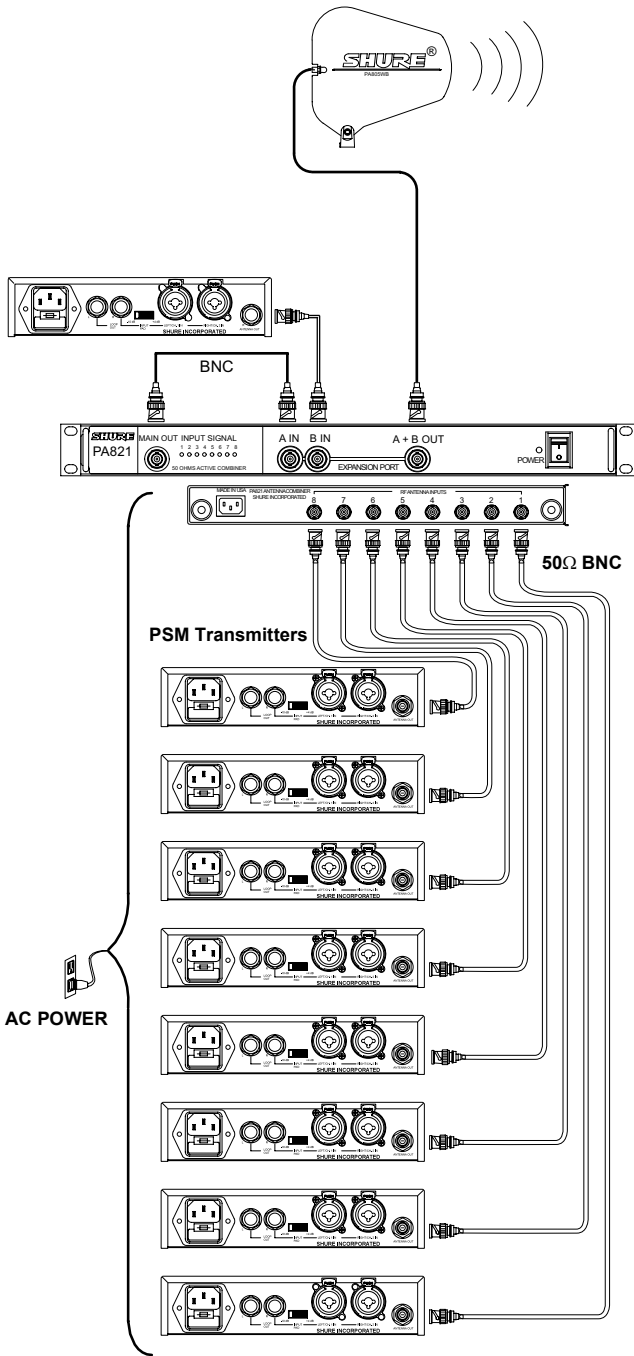

FIGURE 3
4. Attach an antenna to the **A + B OUT** of the **EXPANSION PORT**. For wideband applications, use the PA805WB directional antenna. See Figure 3.